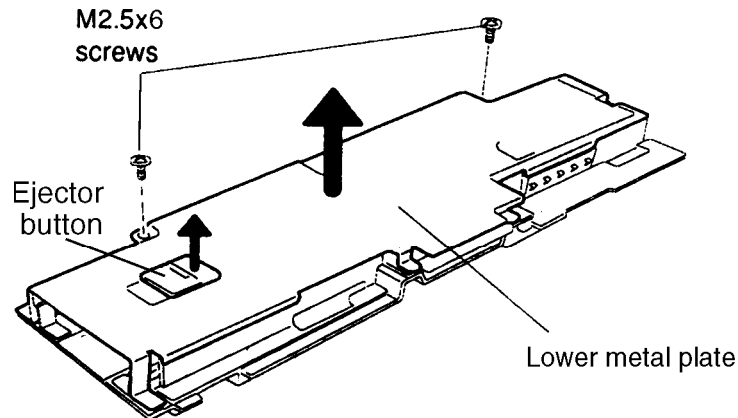

Figure 4-21 Removing the Lower Metal Plate
- Turn the lower system board assembly over, remove the **two M2.5x6 screws**, then lift off the **lower metal plate** and PCMCIA **ejector button** (Figure 4-21).
5. Holding the **PCMCIA ejector button** over the opening in the **lower metal plate**, place the metal plate onto the lower system board. Work the ejector button so that it moves the card ejector plate back and forth (Figure 4-21).
6. Secure the **lower metal plate** with **two M2.5x6 screws** (Figure 4-21).